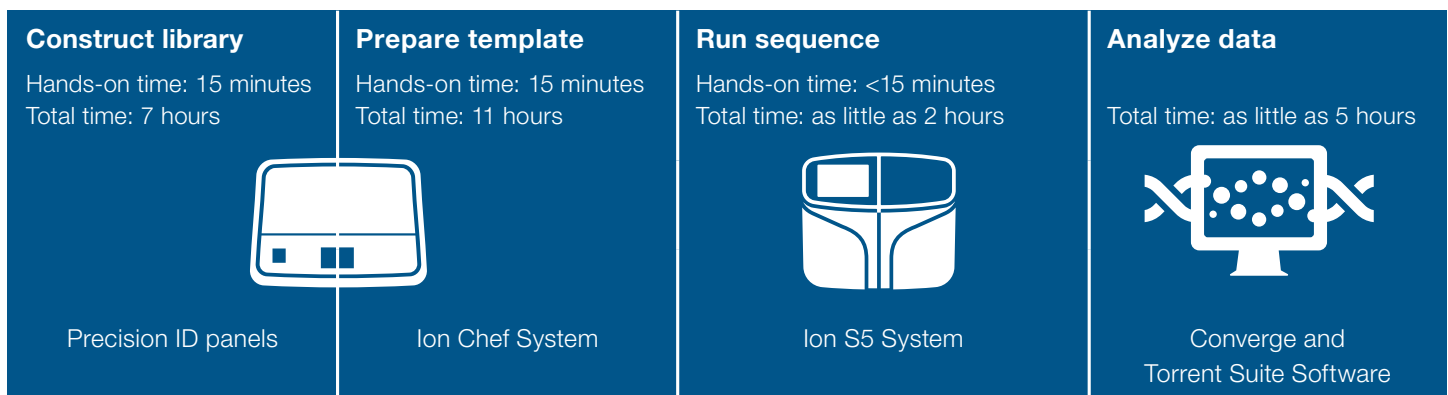

Figure 4. DNA-to-data workflow using Precision ID panels.
- Less than 45 minutes of hands-on time for a DNA-to-data targeted sequencing workflow (Figure 4)